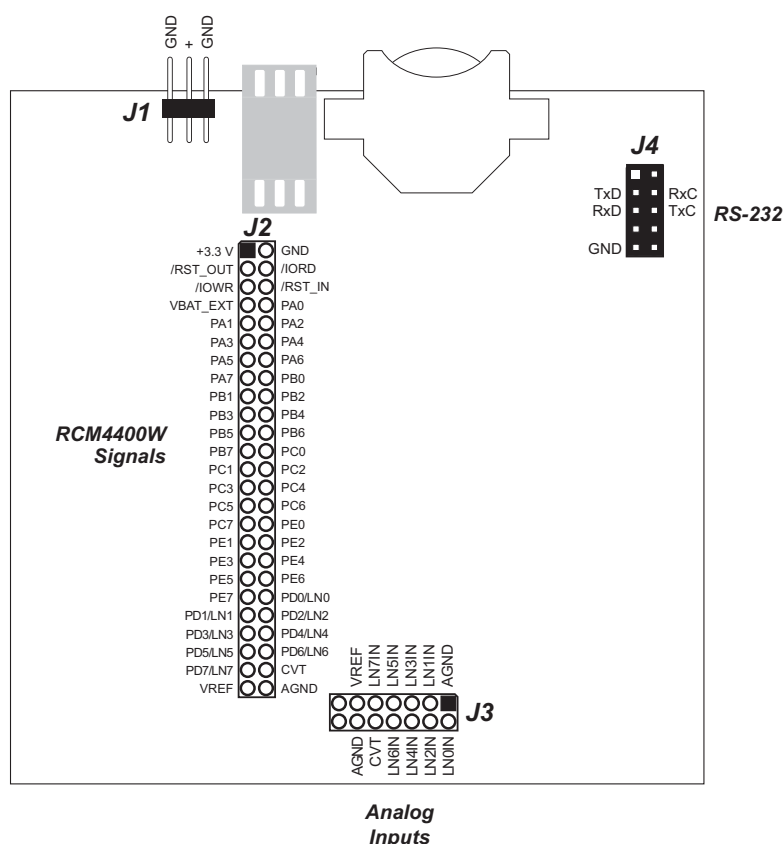

Figure B-4. Prototyping Board Pinout
- **Module Extension Header**—The complete pin set of the RCM4400W module is duplicated at header J2. Developers can solder wires directly into the appropriate holes, or, for more flexible development, a 2 × 25 header strip with a 0.1" pitch can be soldered into place. See Figure B-4 for the header pinouts.
The Prototyping Board provides the user with RCM4400W connection points brought out conveniently to labeled points at header J2 on the Prototyping Board. Although header J2 is unstuffed, a 2×25 header is included in the bag of parts. RS-232 signals (Serial Ports C and D) are available on header J4. A header strip at J4 allows you to connect a ribbon cable, and a ribbon cable to DB9 connector is included with the Development Kit. The pinouts for these locations are shown in Figure B-4.